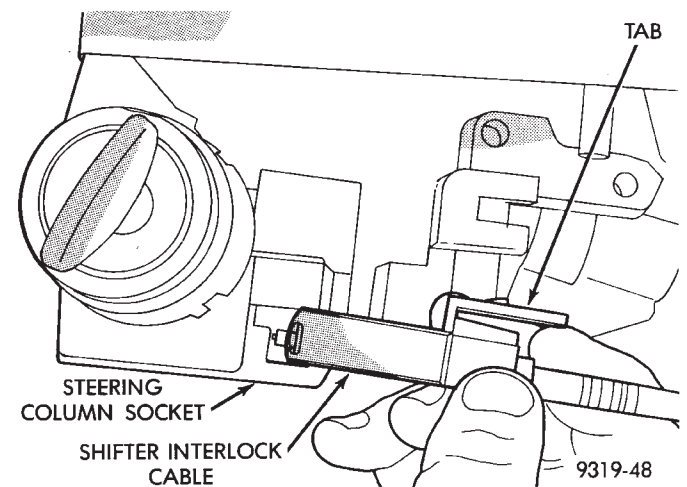

Fig. 25 Shifter Interlock Cable
(28) **If the vehicle is equipped with a floor shifter,** turn the ignition key to the run position unlocking the steering column. Depress tab and remove the floor shift interlock cable from the socket on the steering column (Fig. 25).